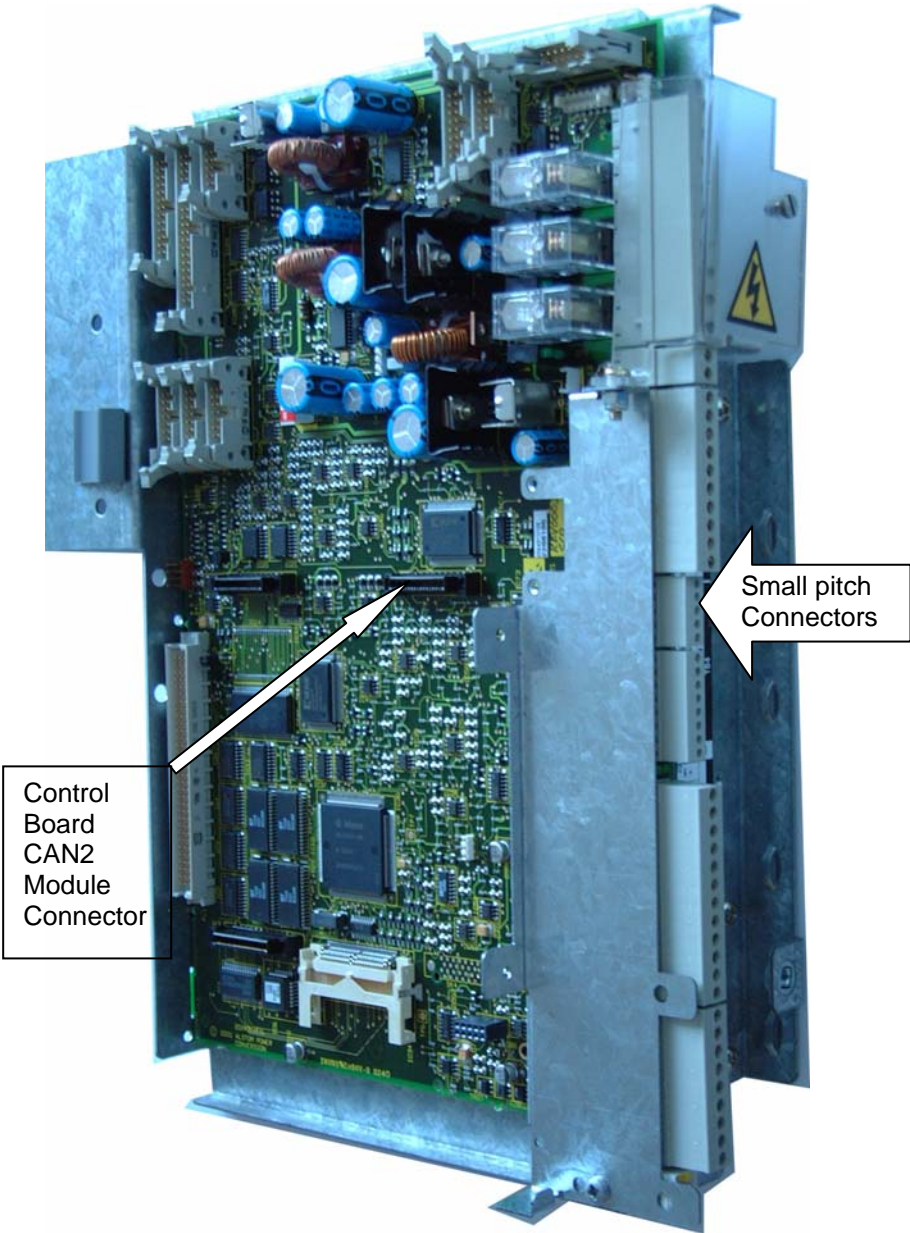
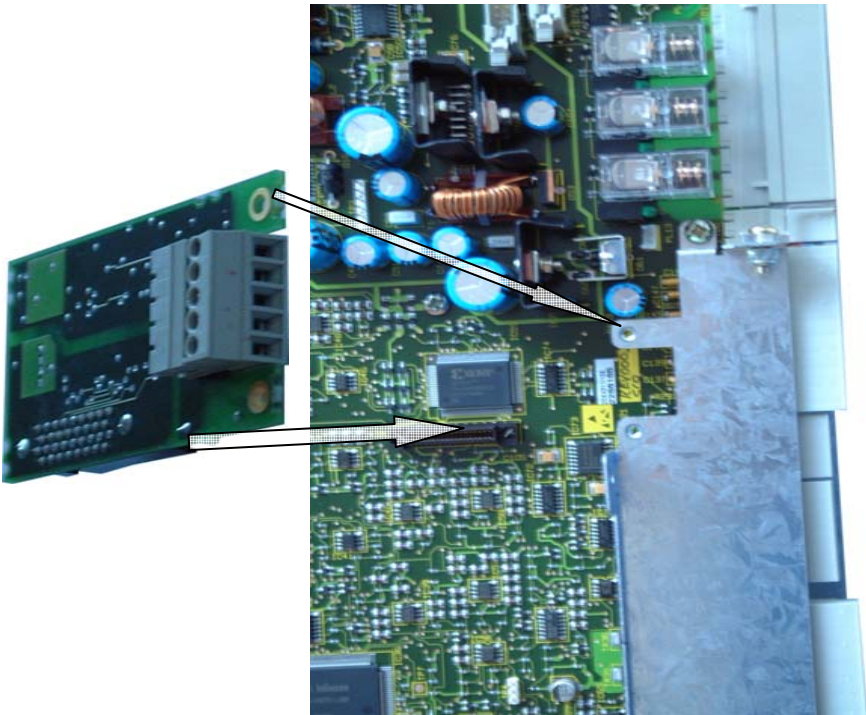

Figure 3-3 Location of CAN2 connector and small pitch connectors.
Figure 3-4 Drive module – fitting the CAN board
5. Fit the CAN board into the drive-to-drive-way socket (see Figure 3-3) at the front of the control board, as shown in Figure 3-4.